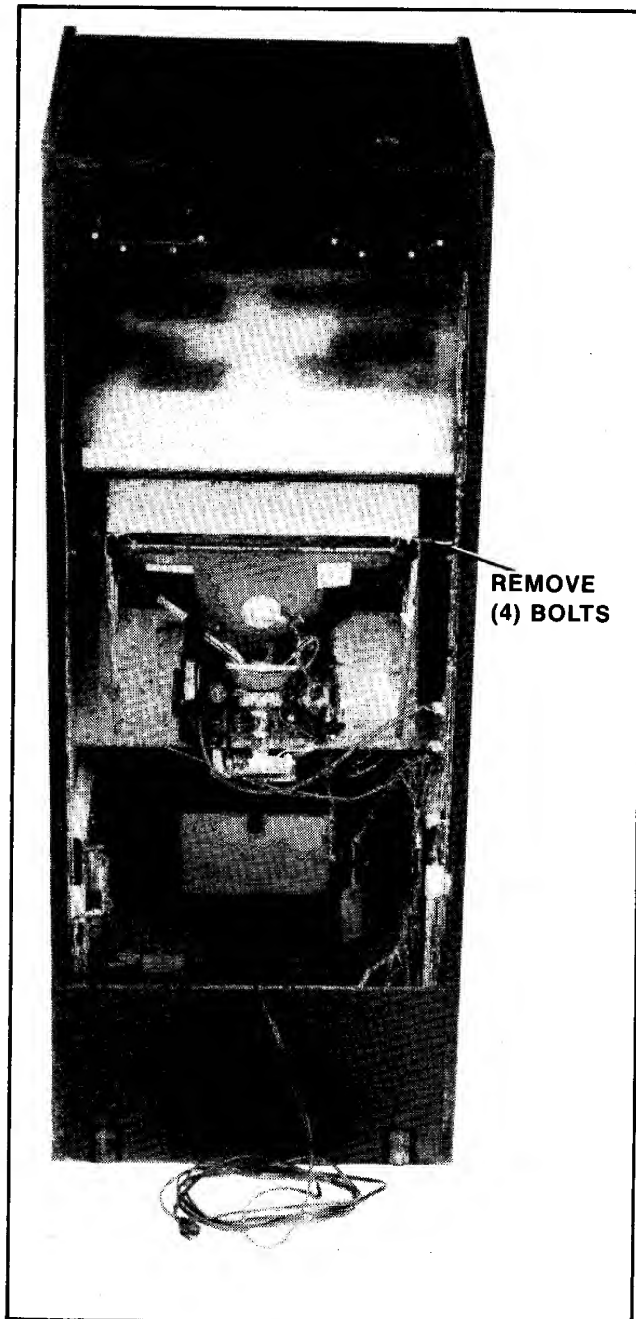

Figure 4-8 Removing Monitor — Upright
1. UPRIGHT MODEL: See Figure 4-8.
The monitor mounting channels slide on top of and against two metal guides mounted to the cabinet's right and left sides. The monitor is removed by sliding it out the back of the cabinet. See Figure 4-8.